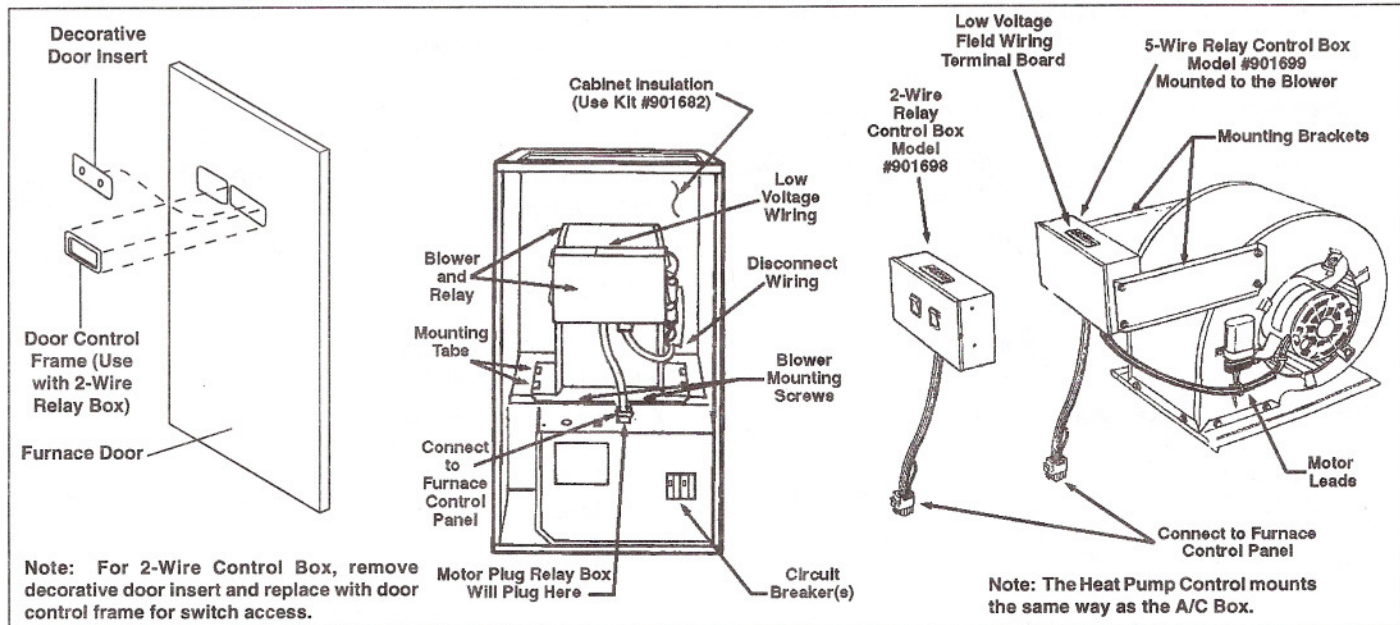

Figure 1. FE()B- Series Electric Furnace
Installation Sequence for NORDYNE Model FE()B- Series Electric Furnace (See Figure 1)
1. Remove the furnace door by pulling outward either from the top or the top side of the door. Switch the circuit breaker(s) to the OFF position. (See Figure 1 for the circuit breaker location.)
- Attach the relay control box to the mounting brackets as shown in Figure 1 using the four blunt screws provided.
- Connect the motor lead male connector into the bottom female connector of the relay box. Connect the relay box wire assembly/connector into the furnace control box connector. (See Figure 1)